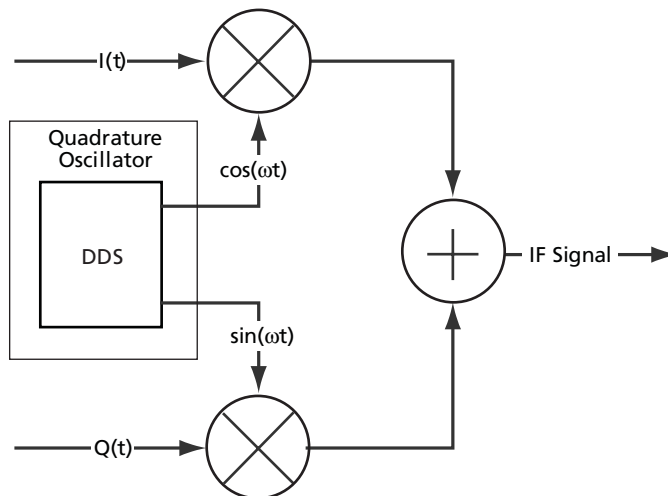

Figure 2. DDS Typical Application
A typical application using the DDS is shown in Figure 2 on page 6. The DDS is used in a communication system as a quadrature intermediate frequency (IF) carrier oscillator to implement a simple IF modulator. Two mixers modulate baseband quadrature data,  $I(t) - Q(t)$ , to create a composite output IF signal. Similarly, the DDS can be used to demodulate an I-Q composite signal.